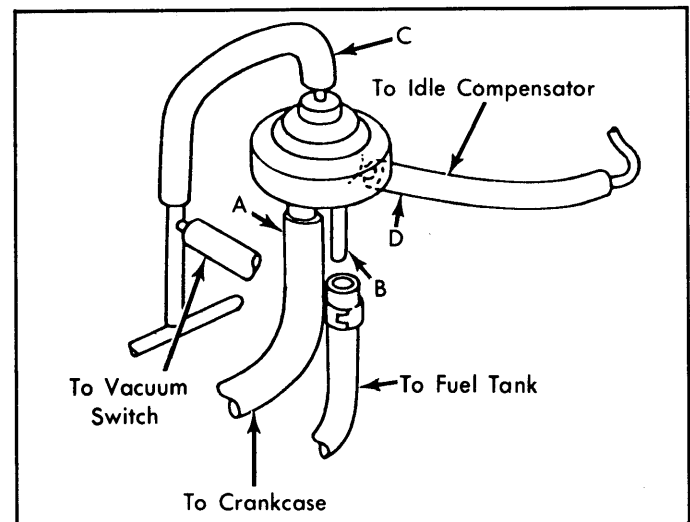

Fig. 3: RX-7 Ventilation & Check Valve
If fuel system is normal, vapors are drawn through ventilation valve to air cleaner where they are stored in charcoal canister. See Fig. 3. When engine is running, these vapors, along with blow-by gases are drawn to ventilation valve and into the intake runner to be burned.
- 1) Disconnect hoses "A" and "B" from valve. Start engine and allow it to idle. Check vacuum at port "A". See Fig. 3.